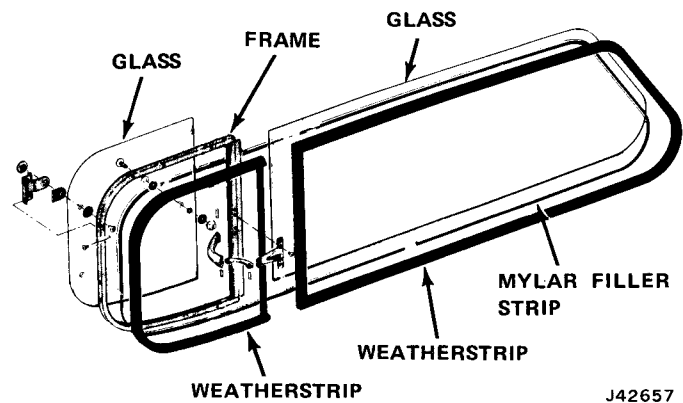

Fig. 15-5 Rear Quarter Window—Cherokee
- (1) Remove mylar insert from weatherstrip.
- (2) Pull weatherstrip back and remove window frame-to-body screws from inside vehicle (fig. 15-5).
- (1) Remove handle-to-frame attaching screws (fig. 15-5).
- (2) Remove glass hinge screws and washers.
- (3) Remove glass.